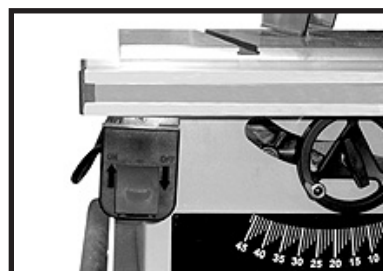

Fig. 8
1. If your switch is attached to the left extension wing, remove it. (After installation of the sliding table, re-attach the switch to the location shown in Fig. 8).